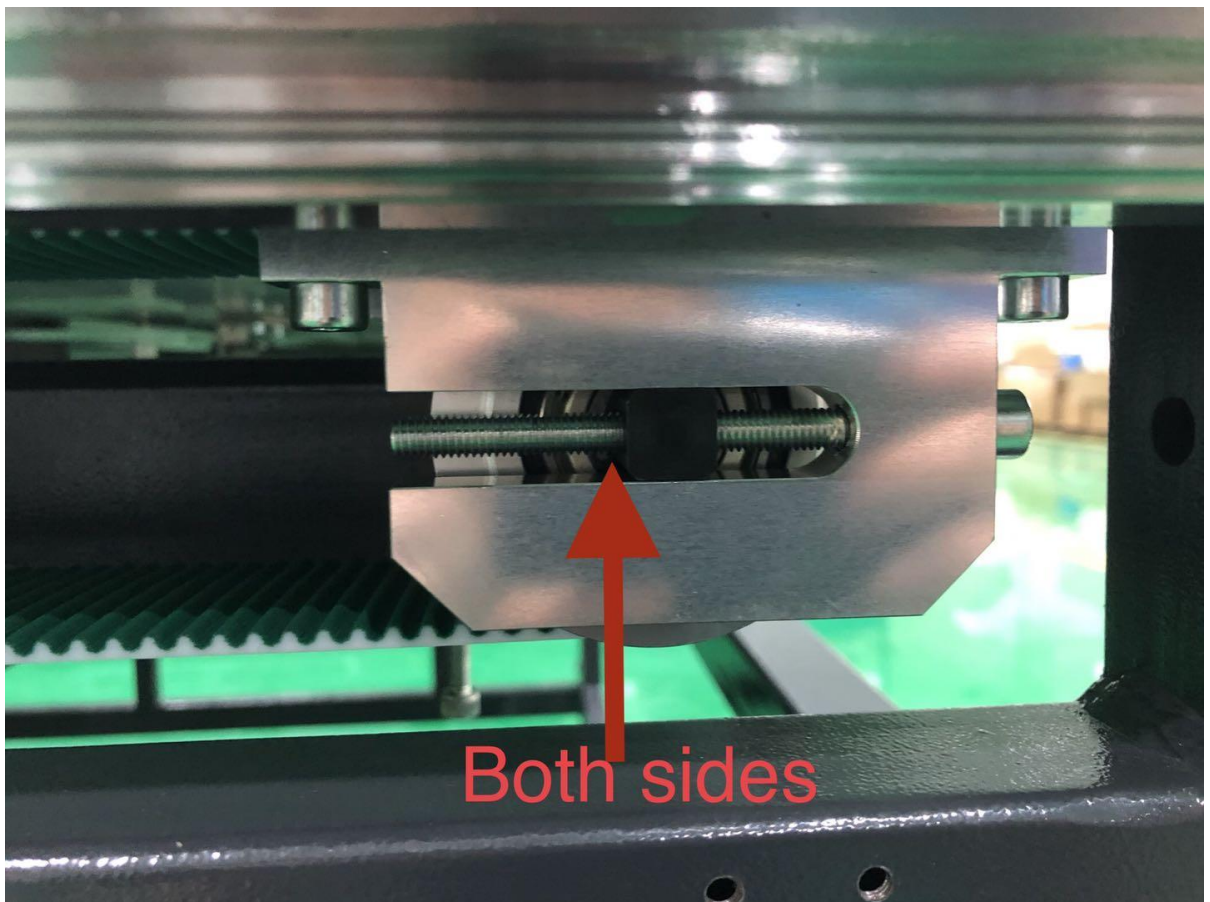
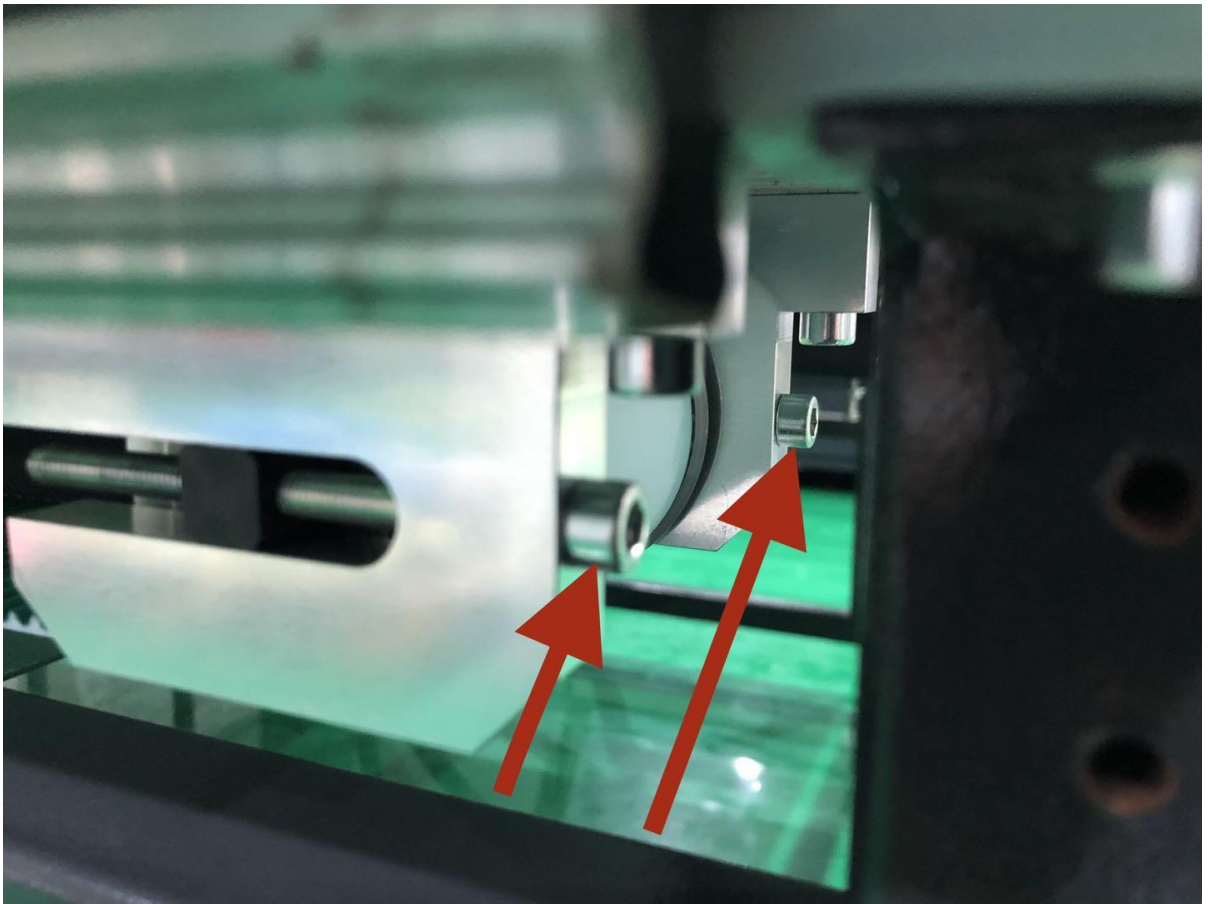

Figure3
Figure4
2. When you start to remove the bearing, remember to mark on the front screws to ensure that you install the new bearing in the same position as the original, so as to ensure the same tension of the belt (Figure 3) . You need to loosen these two screws for the front bearing and loosen the seven screws on the back. ( Figure 4 and Fingure 5 ) Can refer to the Figure below for disassembly and assembly.